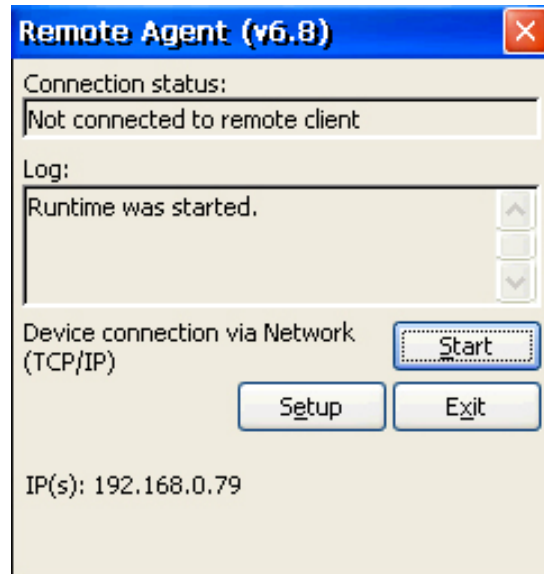

Figure 5.1.1
1. Execute `\<Default Path>\InduSoft\CESERVER.EXE` to start **Remote Agent** program on PAC (see Figure 5.1.1 and Table 5.1.1).